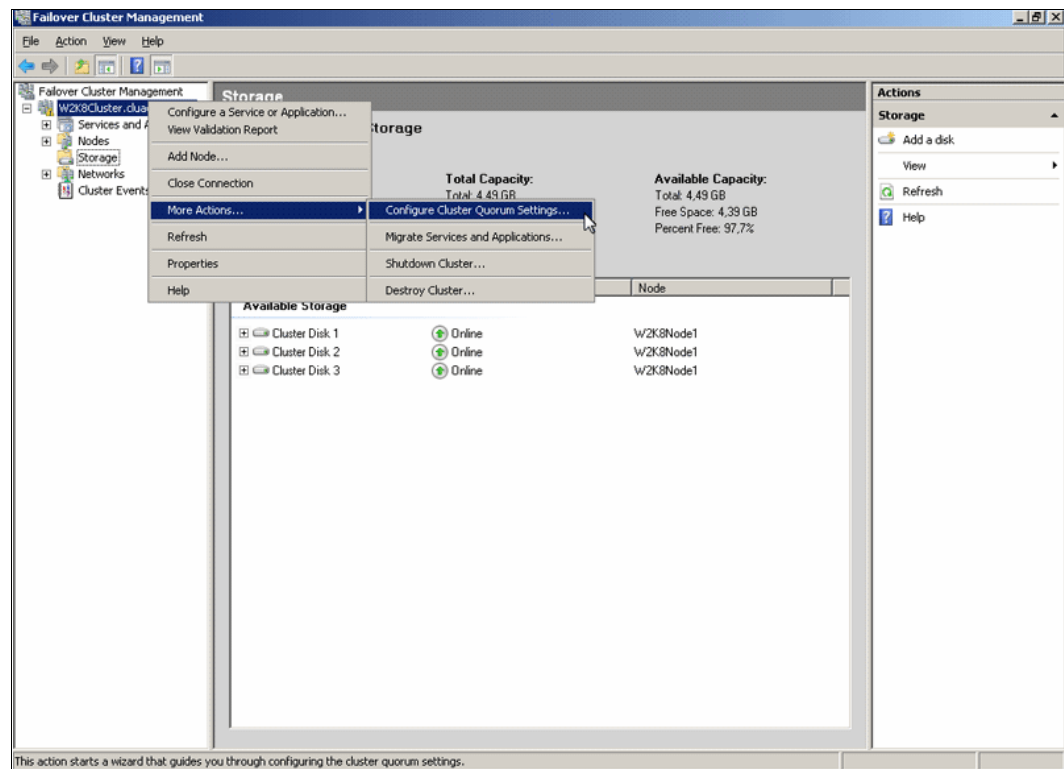

Figure 19-22 Configure Cluster Quorum Settings
3. Select **Configure Cluster Quorum Settings** by right-clicking the cluster (in our example **W2K8Cluster.cluadmin.local**) and selecting **More Actions** in the Failover Cluster Management window as shown in Figure 19-22 and click **Next** to continue.